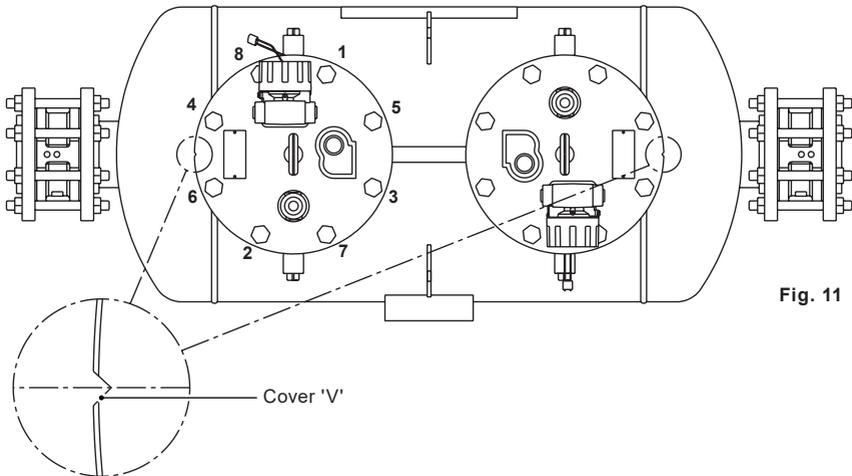

Fig. 12
- 6.1.1** Break and disconnect all connections to the cover. Remove the cover bolts and lift the cover and mechanism assembly from the body, noting the cover orientation ('V' notch) - Reference Figs 12 - 14 to visually see how to remove the cover and mechanism assembly.
- a. When installing the cover and mechanism in tight spaces the mechanism should be held horizontally as shown in Figure 12.